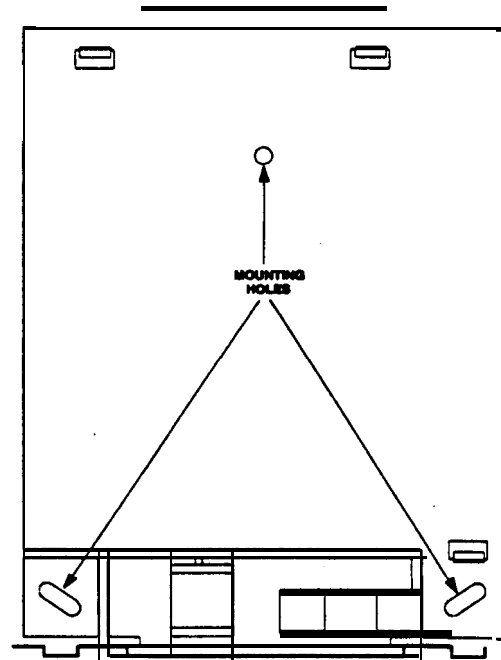

Figure 4. Mounting with Circuit Board Removed
4. Hold the base against the mounting surface and mark the three mounting holes (see Figure 4). Remember to leave at least 10" above the base for the antenna.